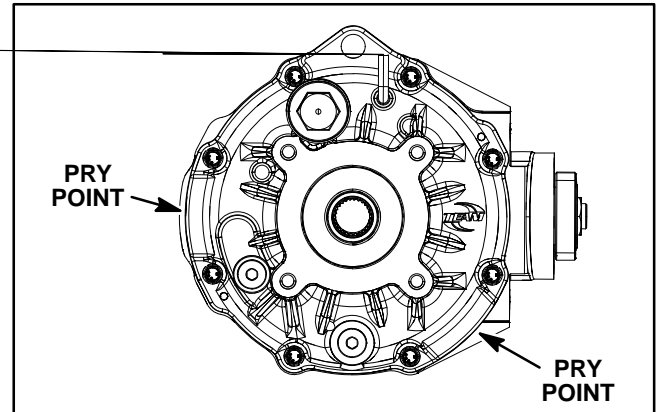
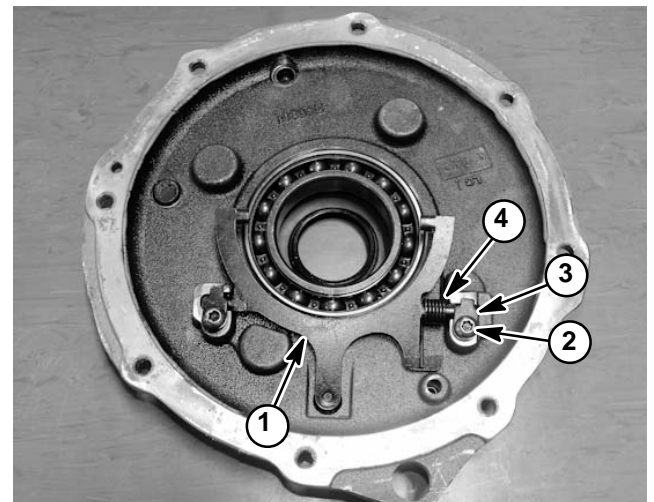
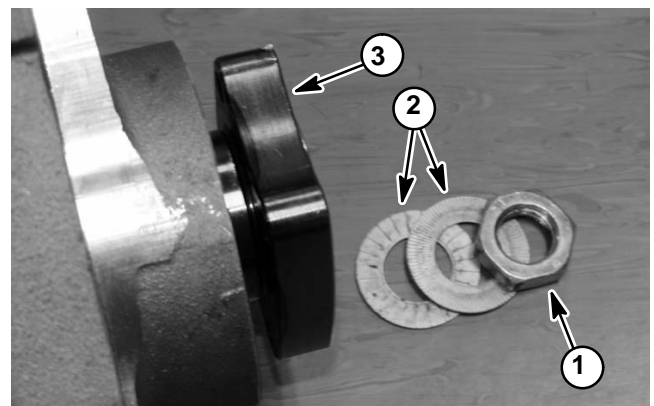

Figure 49
Figure 50
Figure 51
5. Using pry point areas as shown in Figure 49, carefully separate the output cover from the gear case and then remove the output cover. Locate and retrieve the shim (item 11) and engagement dog (item 2).
6. For assembly purposes, note location of dowel pins (item 9) in the cases. Remove pins to prevent them from falling out unexpectedly.
7. Remove differential assembly (items 20 to 29) from the gear case.
8. Remove eight (8) cap screws that secure spiral gear (item 21) to the differential housing. Remove gear from housing.
9. Remove dowel pin (item 25) that retains differential gear pin in the differential housing. Discard the removed pin.
10. Remove differential gear pin (item 26), pinion gears (item 27) and output gear (item 23) from the differential housing. Also, remove output gear (item 22) from spiral gear.
12. If necessary, remove shift fork from cover (Fig. 50):
13. If necessary, remove bearings (item 12 and 13) from the output cover and/or differential housing. Discard bearings after removal.
14. If necessary, remove expansion plugs (item 24) from output gears.
15. If necessary, remove coupler (item 30) and seal (item 37) from pinion gear:
A. Use a suitable wrench on coupler to prevent the coupler and pinion gear from rotating. Remove hex nut (item 7) that secures coupler to pinion gear.
B. Remove lock washer set (item 8) from pinion gear (Shown in Fig. 51). For assembly purposes, note that the wider serrations on the washer halves are orientated against each other.
E. Remove O-ring (item 36) from pinion gear. Discard removed O-ring.
2. If bearing (item 13) was removed from output cover, install new bearing into output cover bore fully to shoulder of bore. Press only on outer race of bearing during installation.
3. If bearing (item 29) was removed from differential housing, install new bearing onto housing fully to shoulder of housing. Press only on inner race of bearing during installation.
4. Make sure that expansion plugs (item 24) are secure in output gears (items 22 and 23). If new expansion plugs are being installed into gears, thoroughly clean inside of gears and apply Loctite #680 retaining compound to OD of new plug before installation. Press plugs fully to internal shoulder of output gears.
5. If removed, install seal (item 37) and coupler (item 30) onto pinion gear:
A. Apply grease to O-ring (item 36) and install onto pinion.
C. Install lock washer set (item 8) onto pinion gear (Shown in Fig. 51). Make sure that the wider serrations on the washer halves are orientated against each other.
E. Use a suitable wrench on coupler to prevent the coupler and pinion gear from rotating. Secure coupler to pinion gear with hex nut (item 7). Torque nut from **195 to 215 ft-lb (265 to 291 N-m)**.
6. If the shift fork (item 32) was removed from output cover, install shift fork (shown in Fig. 50):